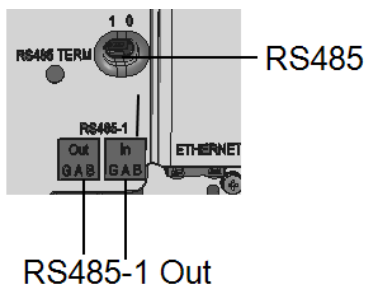

Figure 38: RS485 connectors and termination switch
- Push the RS485 terminal blocks firmly all the way into the connectors on the communication board, see *Figure 38*.
- Terminate the first and last inverters on the bus by moving the termination switch to ON (left position); See *Figure 38*. The other inverters on the bus should have the termination switch OFF (right position).